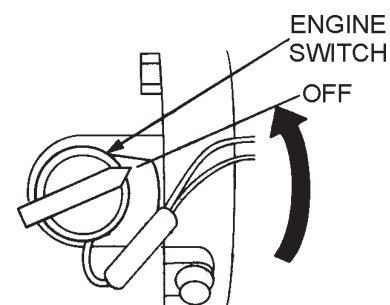

Figure 24. Starter Switch (STOP)
4. Turn the engine **ON/OFF** switch to the "**OFF**" position (Figure 24).